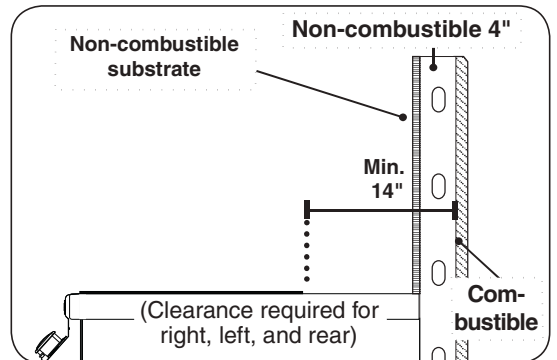

Fig. 9-3 Clearance 'B' Diagram
B. Clearance between unit and a protected combustible wall (i.e. a non-combustible wall in front of a combustible wall to serve as a barrier. This can be accomplished by brick, or a metal stud finished with non-combustible substrate, see Fig. 9-3)